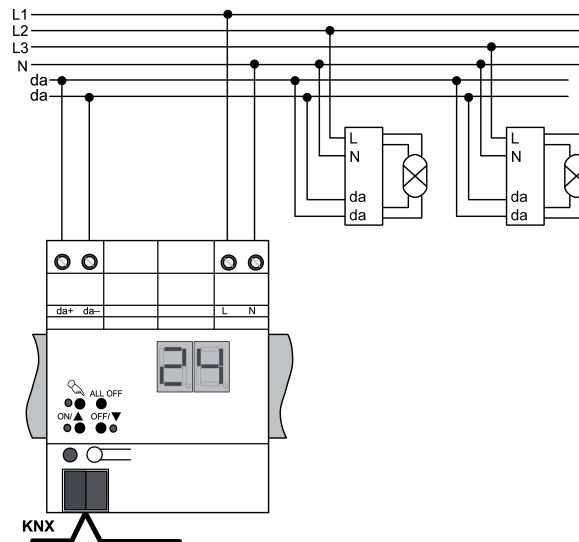

Figure 2
- Connect device as shown in the connection example (figure 2).